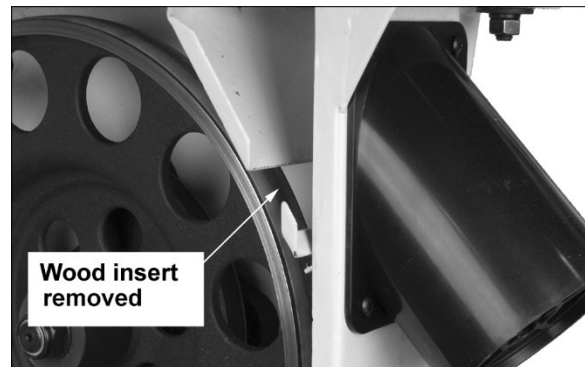

Figure 5-6
6. Remove wood insert (C, Figure 5-6), if installed.